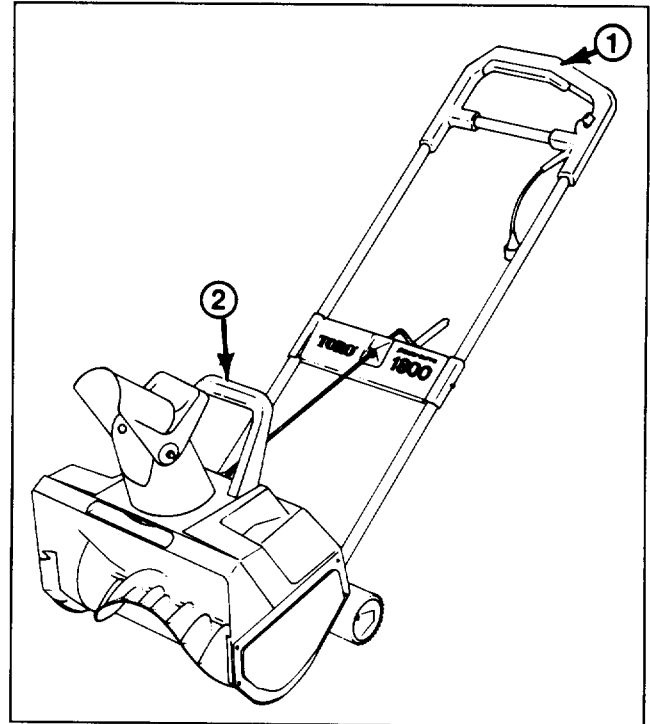

Figure 7
5. Shave down large banks of snow by placing the snowthrower on the bank. Lift the snowthrower by the primary and secondary handles only (Fig. 7). Let the unit's weight shave down the bank in a back and forth motion.
6. When clearing steps or deep drifts, hold the unit by the primary and secondary handles (Fig. 7) and use a swinging or sweeping motion.